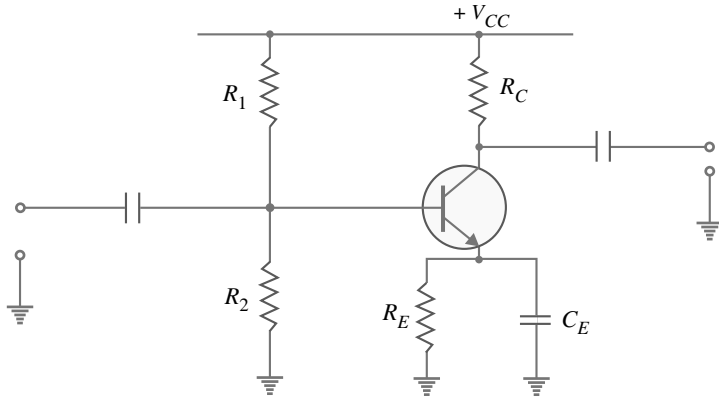
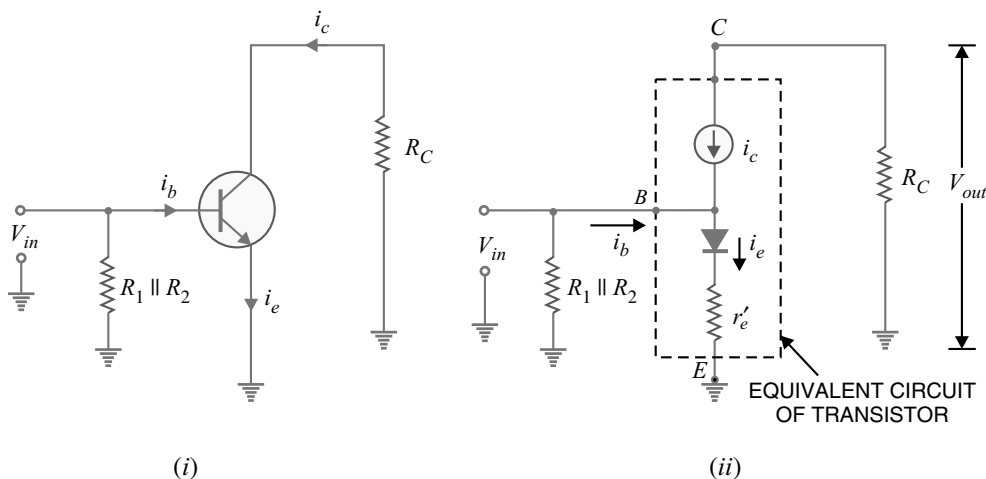
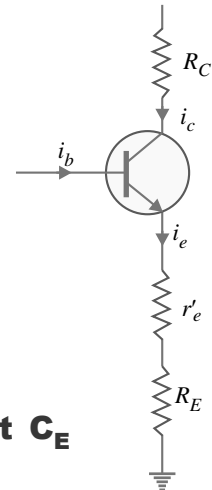

Fig. 8.31
Fig. 8.32
Fig. 8.35
The above formula for  $A_v$  can be used if we know the values of  $R_C$  (or  $R_{AC}$ ),  $\beta$  and  $R_{in}$ . Generally, all these values are not known. In that case, we can find the value of  $A_v$  in terms of *total a.c. collector resistance* and *total ac emitter resistance*. For the circuit shown in Fig. 8.31 (with  $C_E$  connected across  $R_E$ ), it can be proved that the voltage gain is given by ;
Fig. 8.31 shows the circuit of unloaded CE amplifier (i.e. no load  $R_L$  is connected to the circuit). Note that emitter bypass capacitor  $C_E$  is connected in parallel with emitter resistance  $R_E$ . The capacitor  $C_E$  acts as a \*short to the a.c. signal so that it bypasses the a.c. signal to the ground. Therefore, the emitter is effectively at a.c. ground.
**Derivation.** Fig. 8.31 shows the common emitter amplifier. The a.c. equivalent circuit of the amplifier is shown in Fig. 8.32. (i). Replacing the transistor by its \*equivalent circuit, we get the circuit shown in Fig. 8.32 (ii). Note that current source is still connected between the collector and base terminals while the diode between the base and emitter terminals. Further, the input current is the base current ( $i_b$ ) while the output current is still  $i_c$ .
When we remove the emitter bypass capacitor from the  $CE$  amplifier shown in Fig. 8.31, the voltage gain of the circuit is greatly reduced. The reason is simple. Without the emitter bypass capacitor  $C_E$ , the emitter is no longer at the ac ground as shown in Fig. 8.35. Therefore,